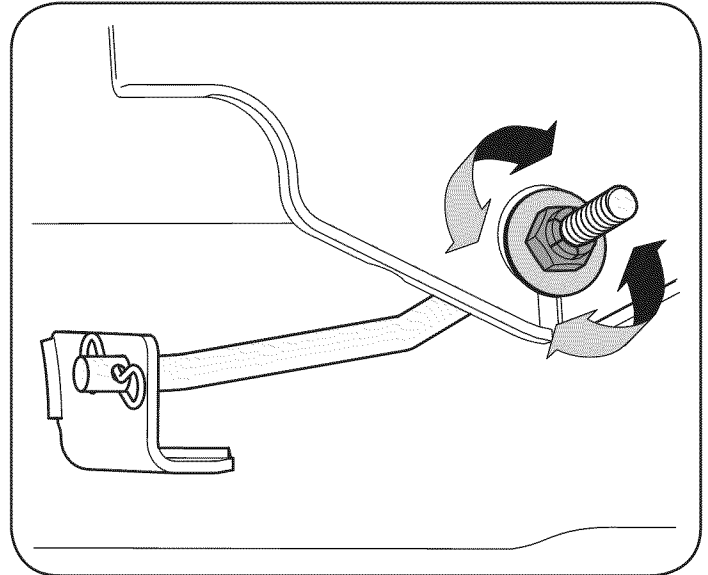

Figure 14
3. Locate the flange lock nut on the front side of the stabilizer bracket. See Figure 14.